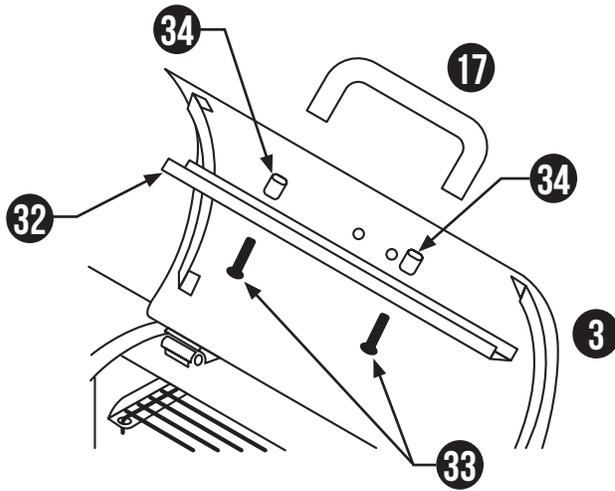
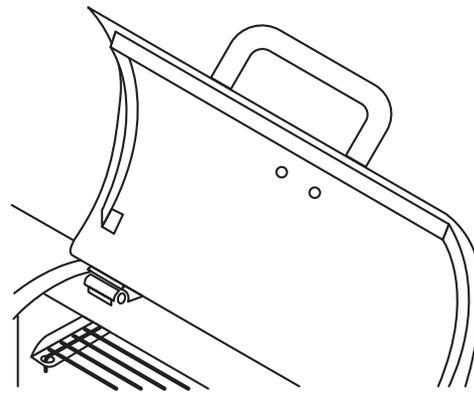

FIG 1
FIG 2
***Pro-Tip - Use a piece of tape to hold one of the bolts to the Smoke Deflector to keep bolt in place and prevent the spacer from sliding out of position while you loosely fasten the first bolt. Remove tape for second bolt and tighten both to handle.** As shown in FIG 1 and FIG 2.